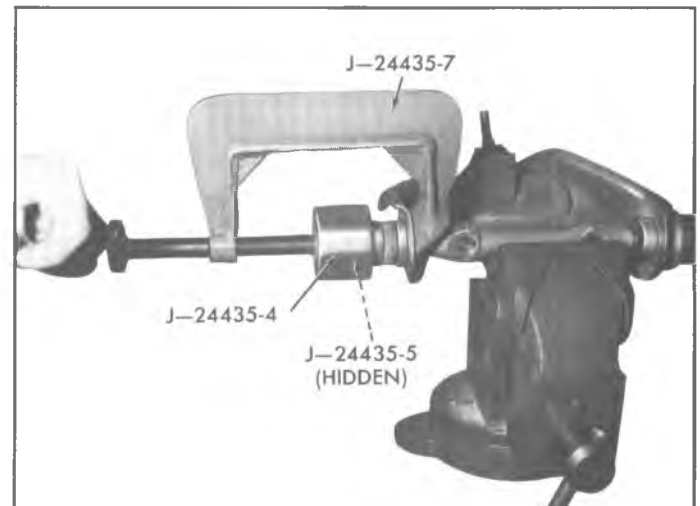

Fig. 32B—Upper Control Arm Rubber Bushing Installation
3. Install remaining bushing as shown in figure 32B and described in step 1.